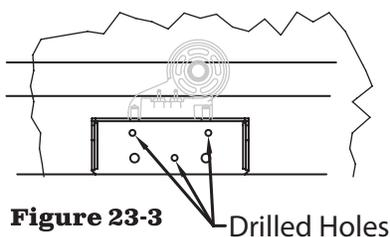

Figure 23-3 Drilled Holes
- 4) Position the driver's side mounting bracket to the point marked on the driver's side (B). Note the (D) offset dimension for your pivot size. Clamp the mounting bracket into position. The top of the mounting plate should be as high as possible from the bottom of the box.
- 5) **Figure 23-3.** Drill 2-3 17/32" holes.